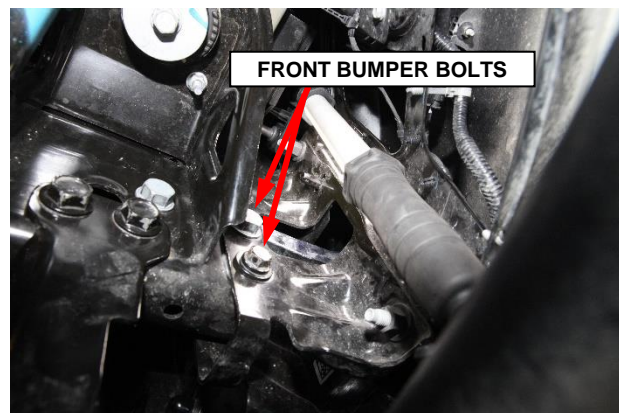

Figure 6 – Front Bumper Bolts
9. Remove the two bolts from each side of the front bumper (Figure 6).
26. Install the two bolts onto each side. Tighten the bolts to 95 N·m (70 ft. lbs.) (Figure 6).